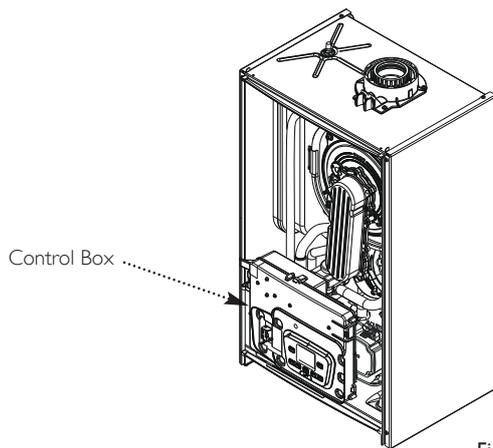

Fig. 34
2. Disengage the securing tab and hinge the control box (Fig. 34) downwards. Undo the terminal block cover securing screw and remove the cover.